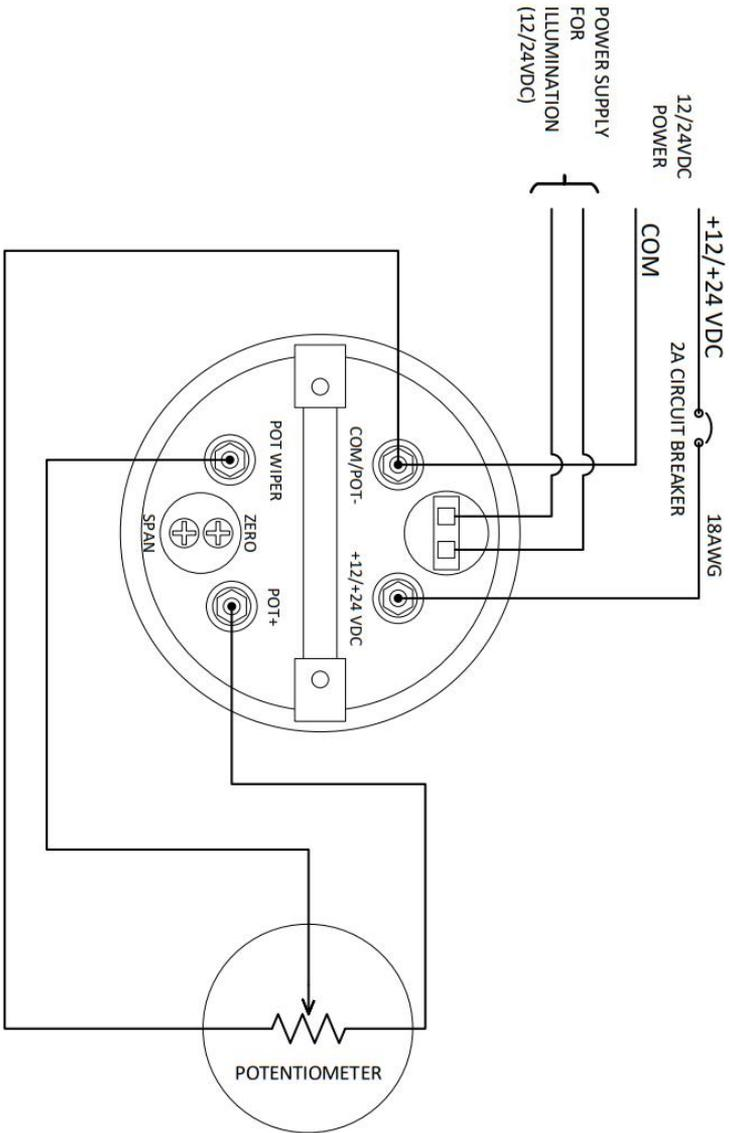

Figure 5: Master Unit Configuration
1. Wire electrical cables and power wires, according to one of the configurations shown in Figure 5 through Figure 7 and the additional details in this section of the manual.